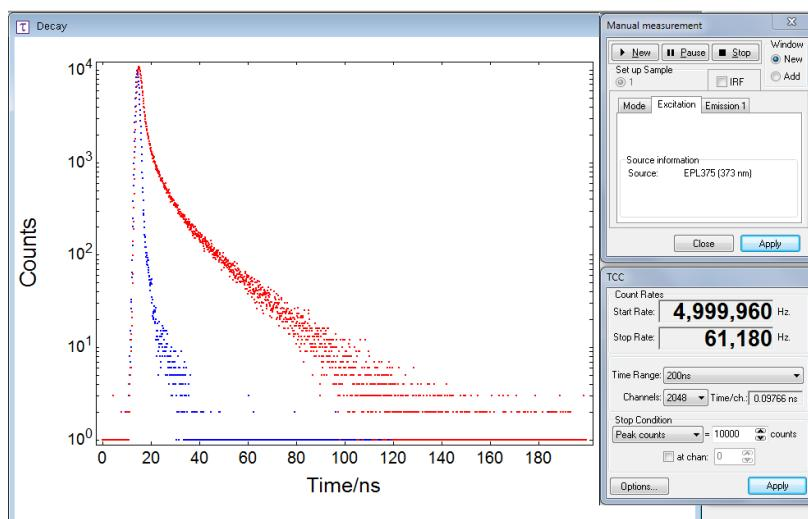

Figure 6-8: Dialogue box for a Manual Time-Resolved measurement by TCSPC
- 13-2 Open the option for manual lifetime measurements (> **Manual**). Two dialogue box will appear on the right side of the Fluoracle main panel: the upper one provides an extract of **Signal Rate** options and will be required to start and stop measurements and the lower one is specific for the lifetime settings in TCSPC mode (refer to Figure 6-8).